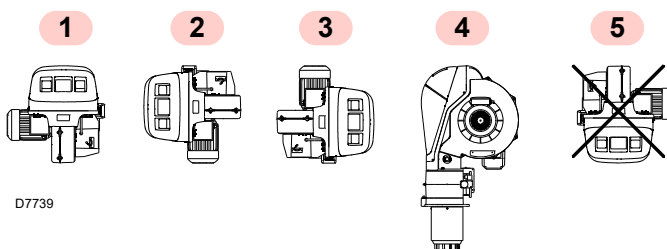

Fig. 10
- The burner is designed to work only in positions 1, 2, 3 and 4 (Fig. 10).